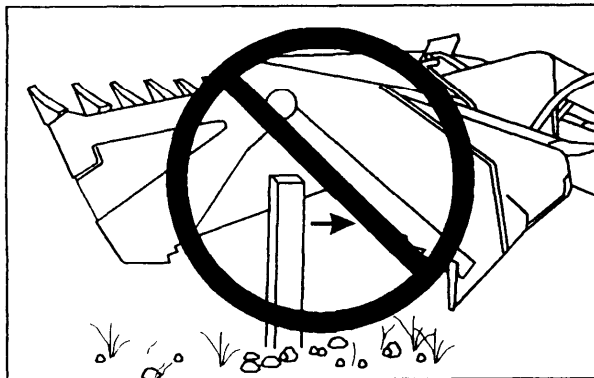

Figure 9-29.—Breaking off an object using the clamshell by back dragging.
**Do NOT** attempt to break off buried or anchored objects with the clamshell by back dragging, because this may bend the clamshell (fig. 9-29).